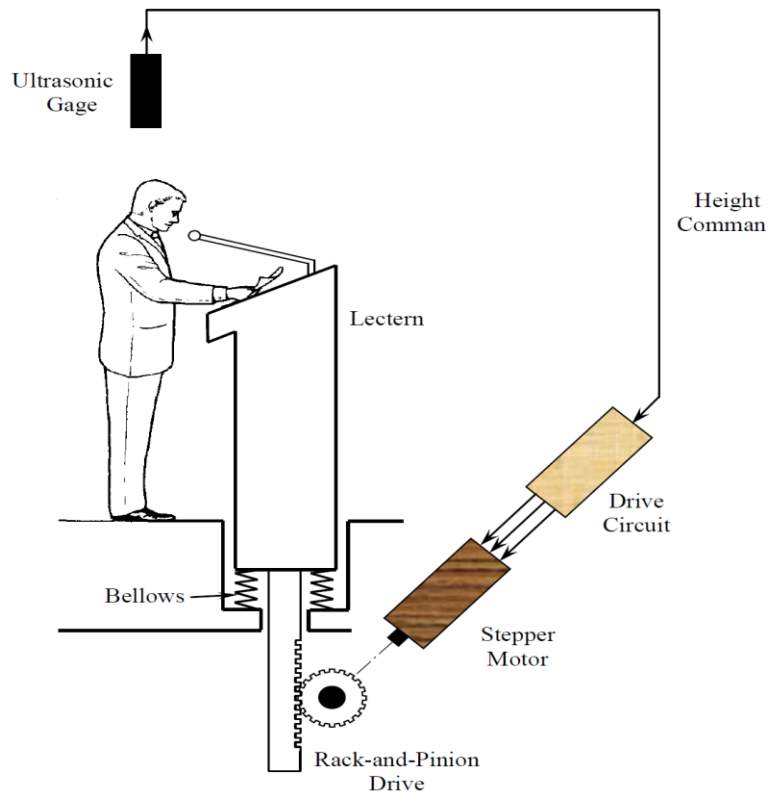

Figure P8.35: An automated lectern.
8.35 A lectern (or podium) in an auditorium is designed to adjust its height automatically, depending on the height of the speaker. An ultrasonic gage measures the height of the speaker and sends a command to the logic hardware controller of a stepper motor, which adjusts the lectern vertically through a rack-and-pinion drive. The dead load of the moving parts is supported by a bellows device. A schematic diagram of this arrangement is shown in Figure P8.35. The following design requirements have been specified: Time to adjust a maximum stroke of 1 m = 5 s. Mass of the lectern = 50 kg. Maximum resistance to vertical motion = 5 kg. Displacement resolution = 0.5 cm/step.